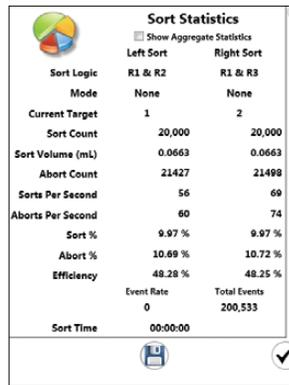

Fig. 11. Sort Statistics window.
13. The Sort Statistics window (Figure 11) will appear and sorting will begin. It can be reopened by clicking the **Sort Statistics** button in the toolbar.